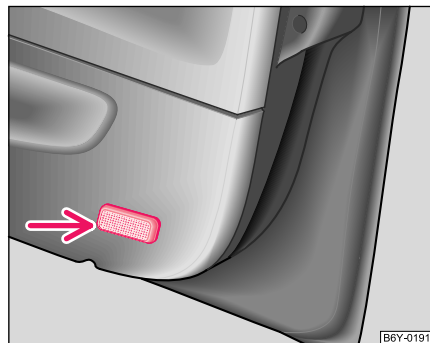

Fig. 164 Remove the front door warning light
- Push in a knife or screwdriver from the side between the light and the door panel ⇒ fig. 164. Lever out the light carefully.